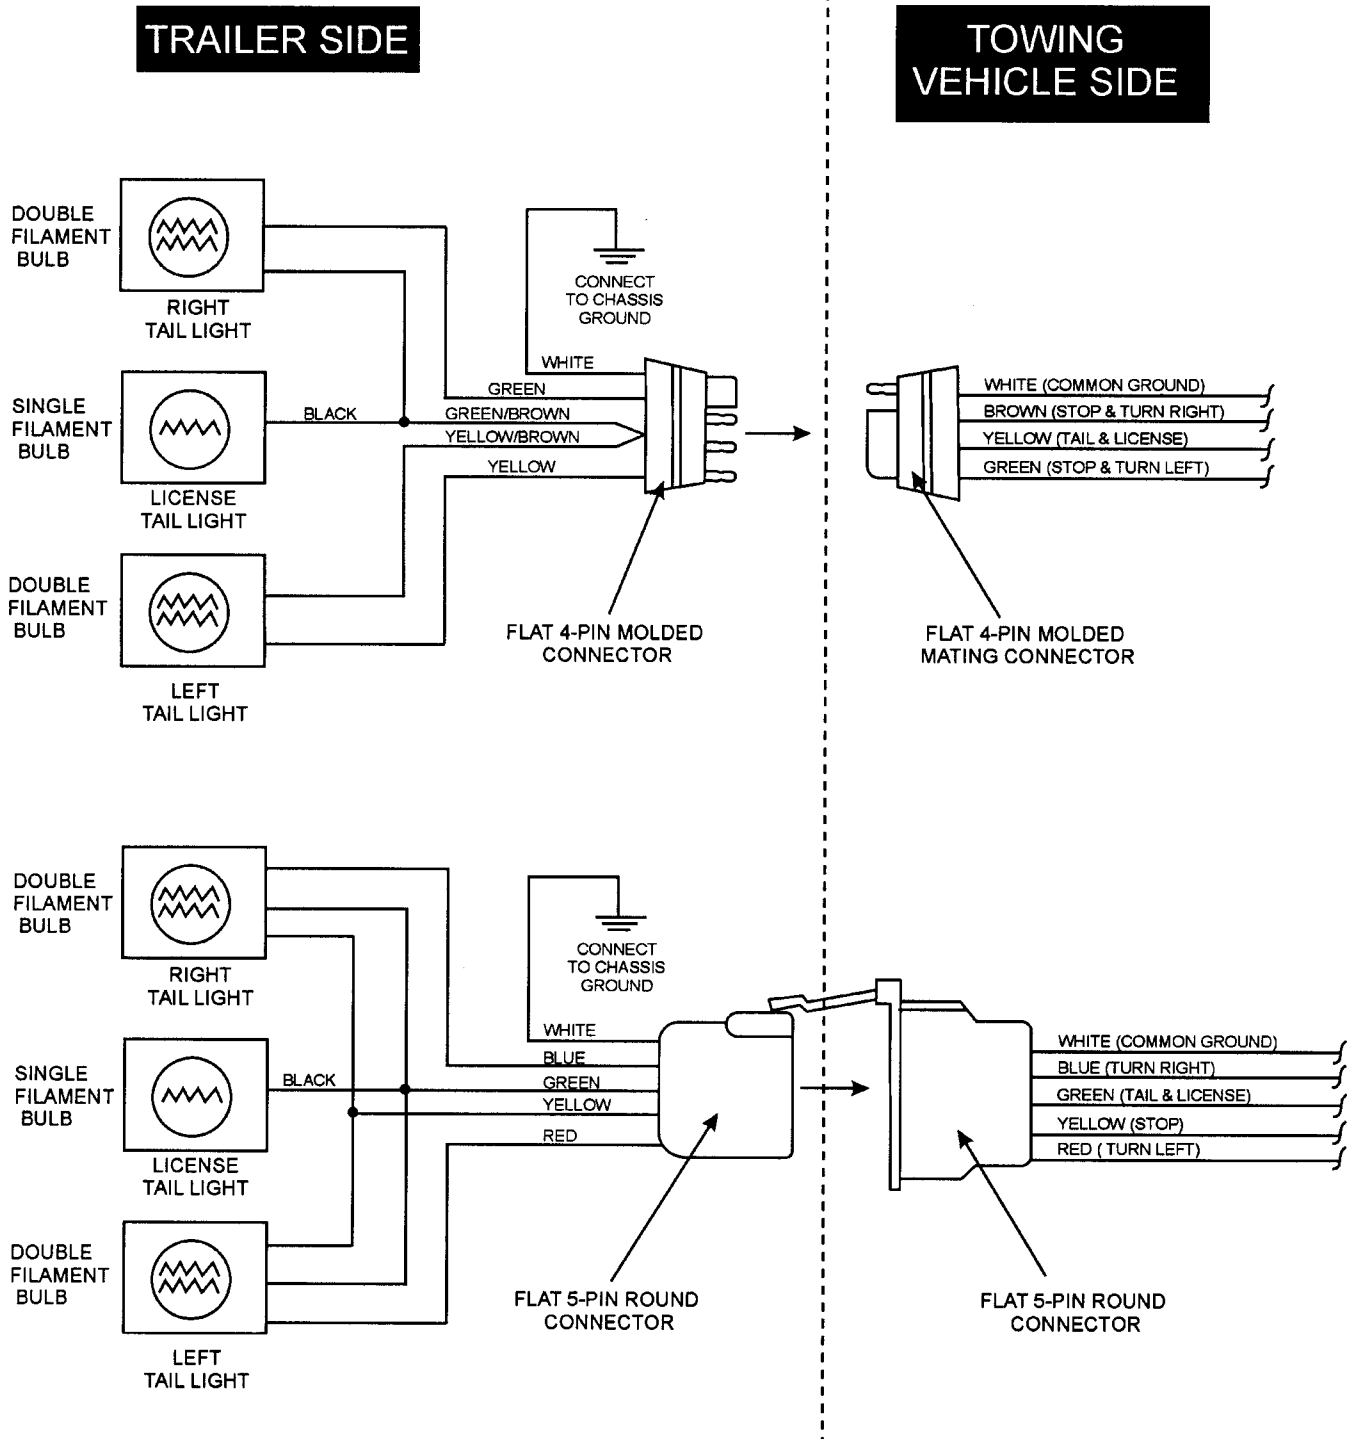

Figure 77. Trailer/Towing Vehicle Wiring Diagram
2. Torque all lug nuts in sequence. See Figure 77. **DO NOT** torque the wheel lug nuts all the way down. Tighten each lug nut in 3 separate passes as defined by Table 17.